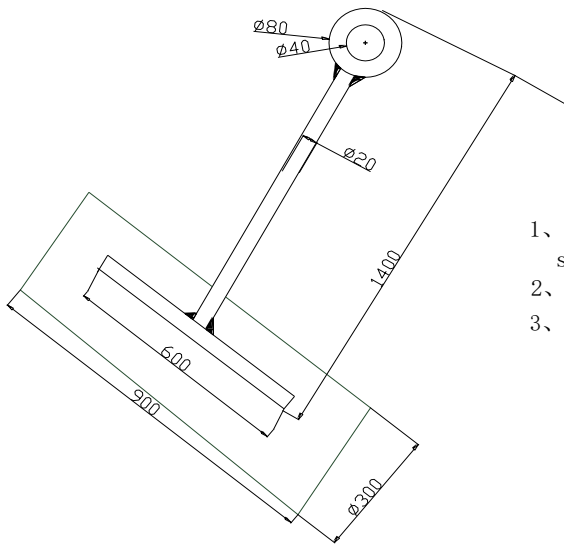

Figure2
4. The construction diagram, with sizes and dimensions of the upper tower base is shown in figure 2. It requires solid welding, no leaks at the weld zone; and an earth lug must be welded on at 20cm above the ground (clearly visible). It must be connected to the lightning grounding device. (Lightning rod).